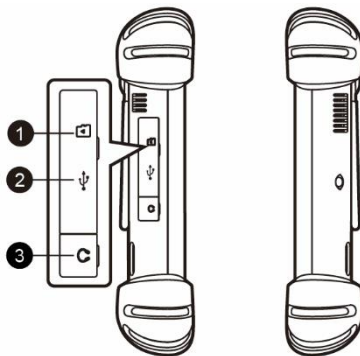

Figure 2-3 MaxiSys Tablet, Left Side
4. USB Port (it cannot be used at the same time with the Mini USB Port in Figure 2-3 MaxiSys Tablet, Left Side)